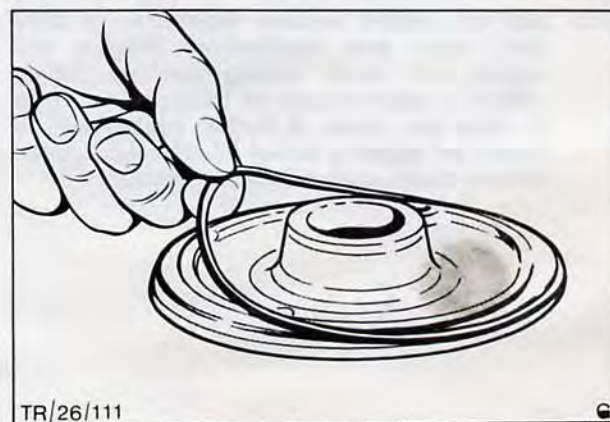

Fig. 67. Removing sealing ring
10. The sealing ring between yoke and intermediate bracket should be removed, from its retaining groove in bracket, Fig. 67.